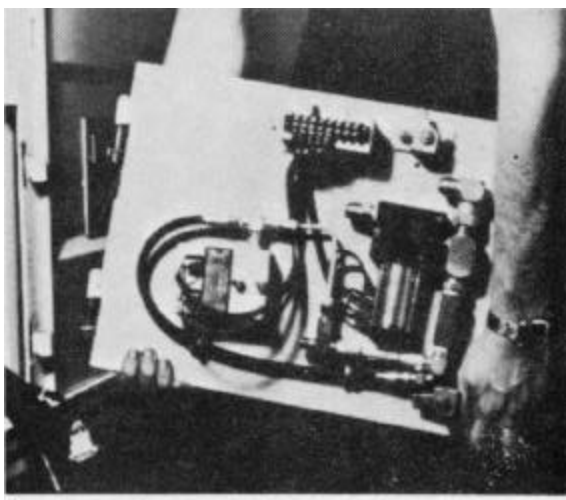

Figure 5-129
4. With hydraulic door module open to approximately 80 degrees, lift module out of hinge sockets (Fig. 5-129).